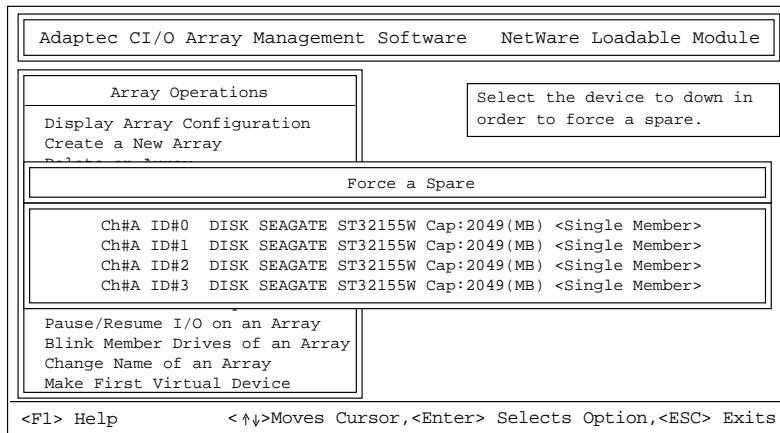

Figure 5-3. Force a Spare Window
- 4 Select an array and press **Enter**. A list of array members appears, similar to the one shown in Figure 5-3. An error message appears if no available spares are detected.